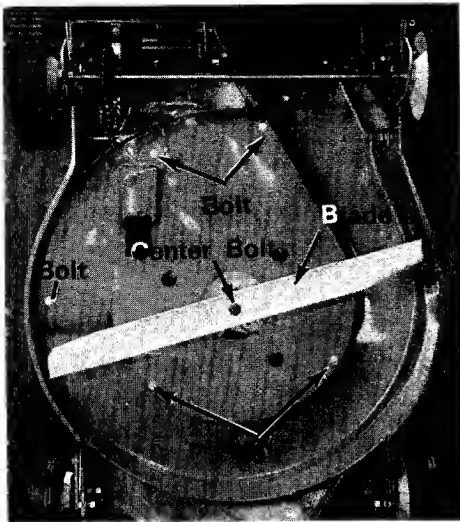

Figure 22
- 4 Place the mower in an upright position. (See figure 22.)
- 5 Take out the three screws and carriage bolt holding the shield in place. (See figure 22.)